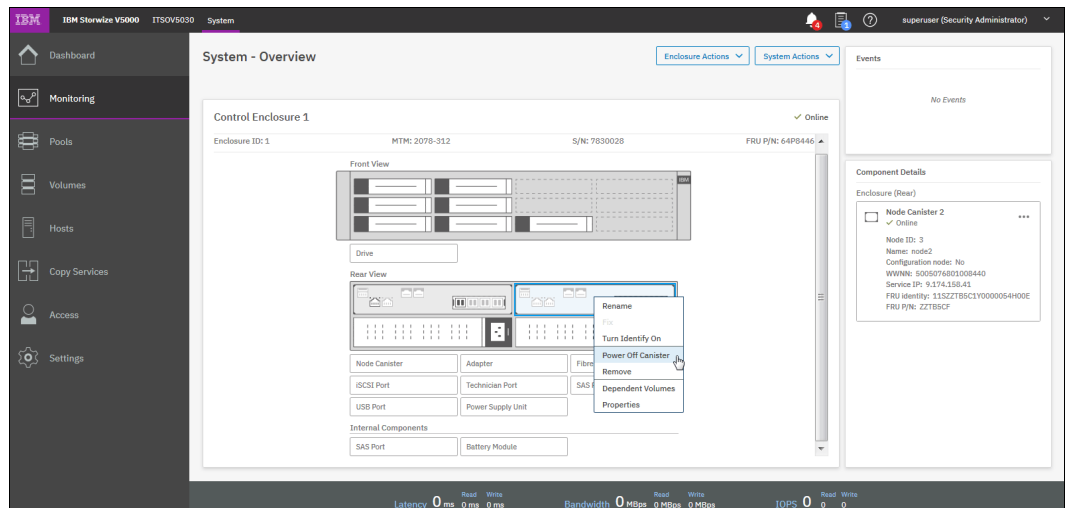

Figure 12-132 Powering off the canister
2. Right-click the required canister and select **Power Off Canister**, as shown in Figure 12-132.